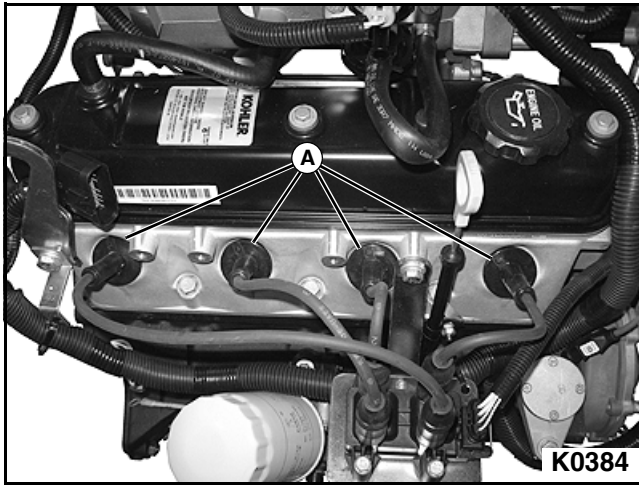

Figure 5-9
2. Use a cloth to wipe dirt and oil away from the area around each of the four spark plug wires (A). See Figure 5-9.